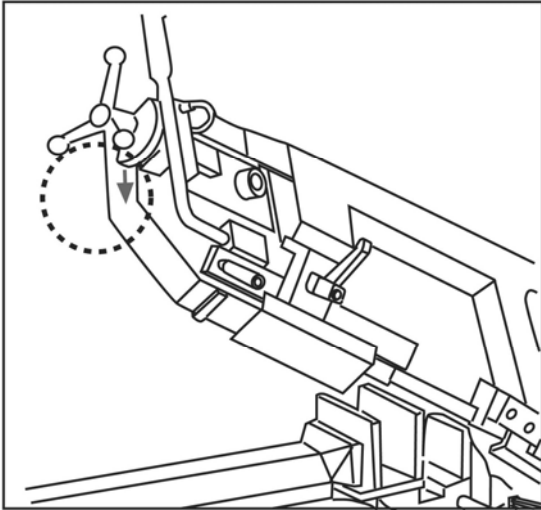

Fig.6
- Ensure that the cutting band rotates in the direction of the arrow on the safety guard which covers it and that the saw teeth are facing the correct direction (Fig.6).